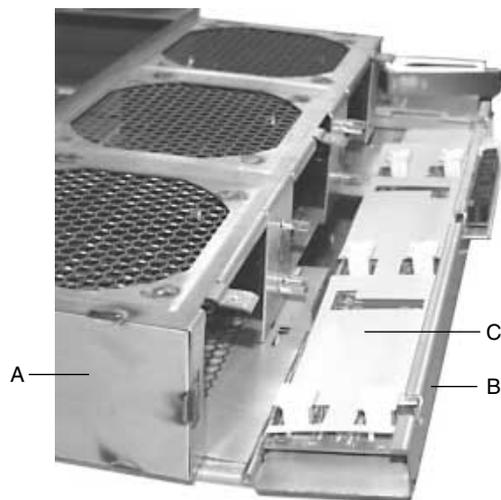

Figure 2-8 Fan Assembly Rotated away From Its Base
3. Rotate the upper portion of the assembly away from the base. The upper portion is noted by “A” in Figure 2-8. The base is noted by “B”.
4. Remove the plastic rug, which is noted by “C” in Figure 2-8.
7. Place the plastic rug back into the assembly. The orientation of the rug is important. For the correct orientation, see Figure 2-8.